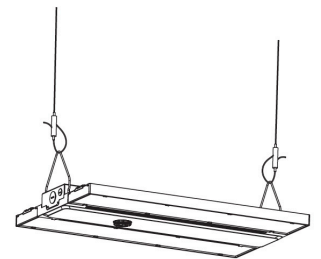

Figure 3
- Step 1. Install V-Hangers to the back of driver cover. (Figure 3)
- Step 2. Affix provided cable to V-Hangers with the toggle to allow for quick adjustment. (Figure 3)